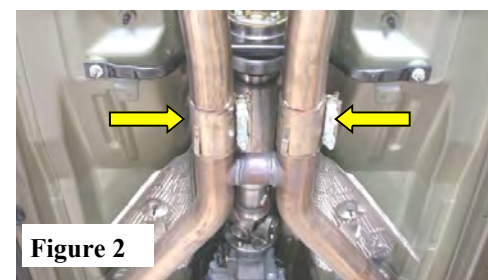

Figure 2
**Do not discard band clamps as they will be used for installation of your new exhaust.** (See Fig. 2)